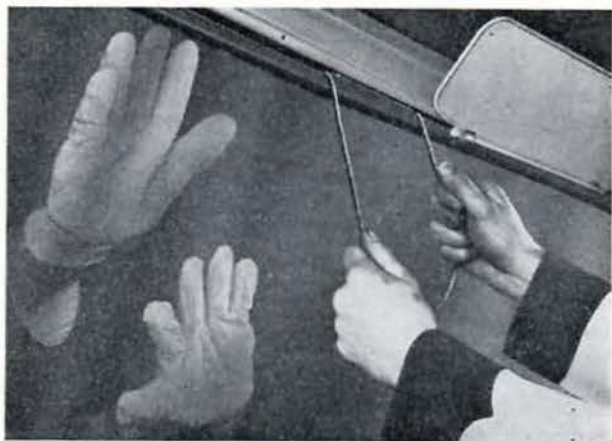

Fig. W.3. Installing the windshield glass. With pressure applied to the outside, a cord is used to lift the weatherstrip lip over the body aperture flange
5. Place the windshield into the aperture so that the cords are on the inside. With pressure applied from the outside, lift the lip of the weatherstrip over the aperture flange by pulling the cords in opposite directions (Fig. W.3).